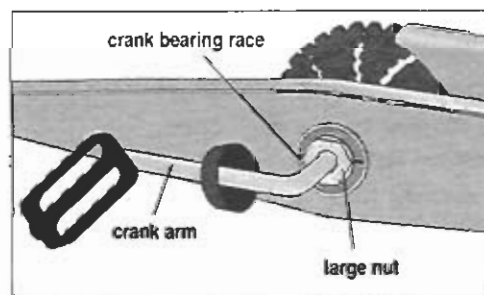

Figure 3
4. Use a large crescent wrench or big pliers to loosen and remove the large nut (Figure 3). Turn the nut clockwise to loosen it.
5. Slide the large nut and washer along the pedal-crank arm to expose the crank-bearing race. Insert the flat end of a screwdriver into the slot on the crank-bearing race (Figure 3).